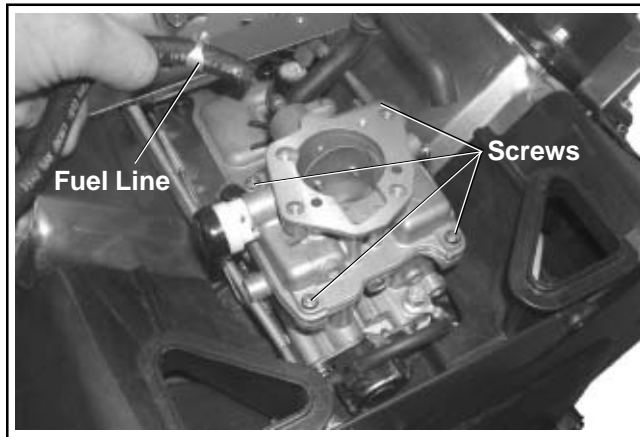

Figure 5-6. Carburetor Detail.
2. Disconnect the fuel line from the carburetor. See Figure 5-6.
8. Once the proper float height is obtained, carefully lower the carburetor air horn assembly onto the carburetor body, connecting the choke linkage. Install the four screws. Torque the screws to **1.7 N·m (15 in. lb.)**. See Figure 5-6.